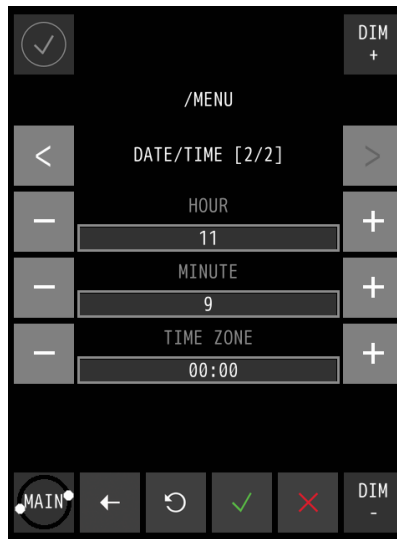

Figure 29: Date/Time Screen 2
3. Touch the > button to select the TIME screen, see *Figure 29: Date/Time Screen 2* on page 36.